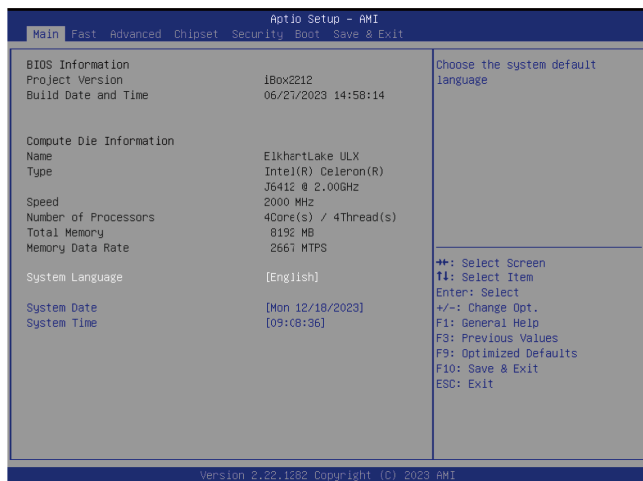

Figure 2-8-1
① During startup, press F2 continuously to enter the BIOS interface, Figure 2-8-1.